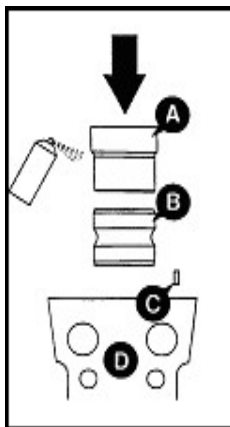

Fig 24.
- 4 Check all parts for damage. Carefully remove minor blemishes ⇒ Fig 24. (□ 3-27).